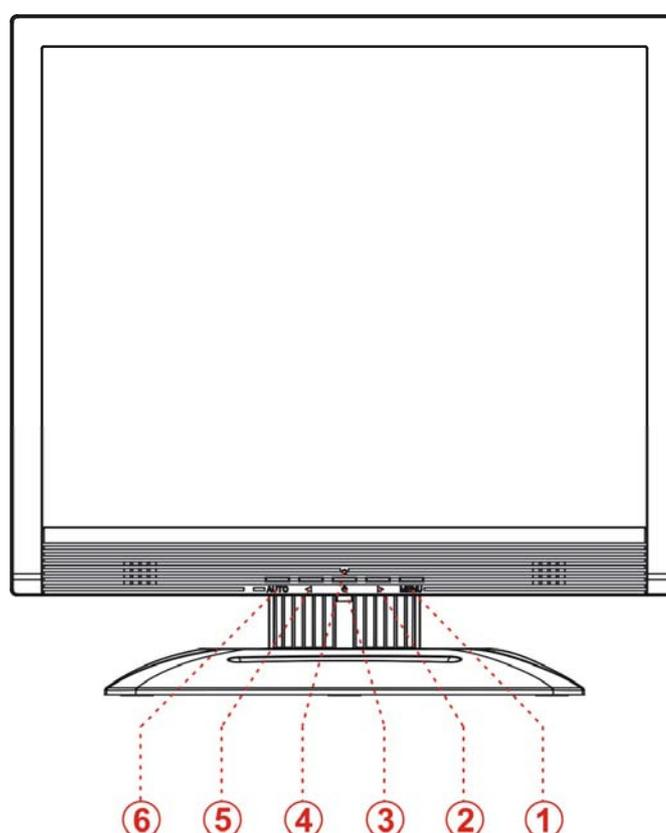

Figure.4. External Control Button
Press the power button to turn the monitor on or off. The other control buttons are located at front panel of the monitor (See Figure 4). By changing these settings, the picture can be adjusted to your personal preferences.
|  <p>The diagram shows the 'BRIGHTNESS CONTRAST' OSD menu. At the top, it has a title bar 'BRIGHTNESS CONTRAST' and a navigation bar with icons for menu, image, RGB, image, menu, and 'R Exit'. The main area contains two menu items: 'BRIGHTNESS' and 'CONTRAST', each with a right-pointing arrow. At the bottom, there is a control bar with '< > ADJUST', 'MENU:ENTER', and 'AUTO:EXIT'.</p> | <p>Brightness/Contrast adjustment:</p> <p>Brightness: Adjusts brightness by using the buttons < or > (② and ⑤ in fig. 4).</p> <p>Contrast: Adjusts screen contrast by using the buttons < or > (② and ⑤ in fig. 4).</p> |
|  <p>The diagram shows the 'IMAGE CONTROL' OSD menu. At the top, it has a title bar 'IMAGE CONTROL' and a navigation bar with icons for menu, image, RGB, image, menu, and 'R Exit'. The main area contains five menu items: 'AUTO ADJUSTMENT', 'H. POSITION', 'V. POSITION', 'CLOCK', and 'PHASE', each with a right-pointing arrow. At the bottom, there is a control bar with '< > ADJUST', 'MENU:ENTER', and 'AUTO:EXIT'.</p> | <p>Image Control:</p> <p>Auto Adjustment: Automatically selects the optimal settings for image parameters (image position, phase, etc.) by using the button MENU (① in fig. 4).</p> <p>H. Position: Controls the picture's horizontal position.</p> <p>V. Position: Controls the picture's vertical position.</p> <p>Clock: Sets up the internal clock. Larger values make the displayed image appear wider; smaller values make it appear compressed.</p> <p>Phase: Adjusts the internal clock's time lag in order to optimize the screen image.</p> |
|  <p>The diagram shows the 'COLOR' OSD menu. At the top, it has a title bar 'COLOR' and a navigation bar with icons for menu, image, RGB, image, menu, and 'R Exit'. The main area contains three menu items: '9300K', '6500K', and 'CUSTOM COLOR', each with a right-pointing arrow. At the bottom, there is a control bar with '< > ADJUST', 'MENU:ENTER', and 'AUTO:EXIT'.</p> | <p>Color:</p> <p>This menu lets you select a preset color temperature (9300K, 6500K) by pressing the OSD buttons < or > (② and ⑤ in fig. 4). Changes to the color temperature take immediate effect on screen. If you wish to set individual color values, select the Custom Color option. Then press the MENU button (① in fig. 4) to select the red, green and blue settings and set the desired value using the OSD buttons < or > (② and ⑤ in fig. 4). The current settings are automatically saved when you return to the previous level or exit the OSD menu.</p> |